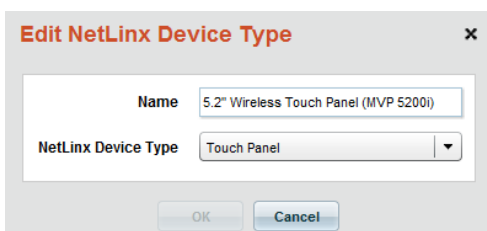

FIG. 418 Edit NetLinx Device Type dialog
3. Click the **Edit** button to open the *Edit NetLinx Device Type* dialog (FIG. 418):